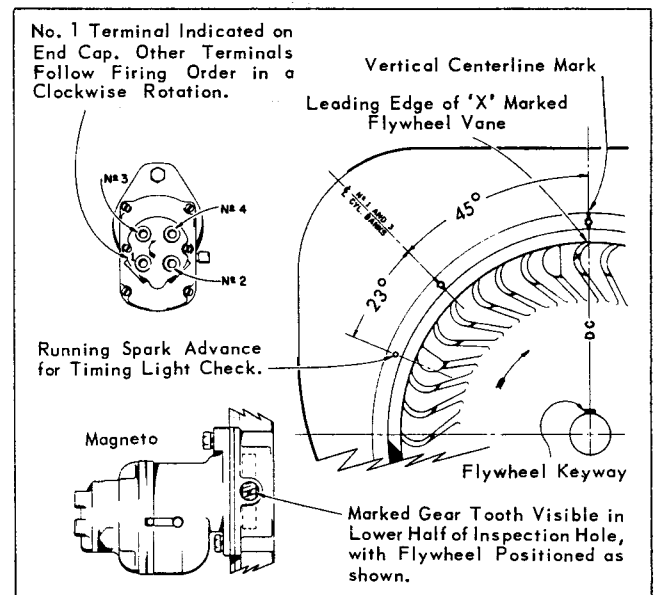

Fig. 10
3. With No. 1 piston on compression stroke turn engine over past top dead center, until the **leading edge** of the 'X' marked vane on the flywheel is in line with the **vertical centerline mark** on the shroud, as shown in Fig. 10. Leave flywheel in this position (flywheel keyway will be on top).
hole in gear cover. See Magneto Timing Diagram, Fig. 10. Securely tighten nut and capscrew for mounting magneto.
The running spark advance is 23°. To check timing with a **neon light**, the advance is indicated by a hole on the flywheel shroud, 23° before **centerline** of the No. 1 and 3 cylinders. See Fig. 10.